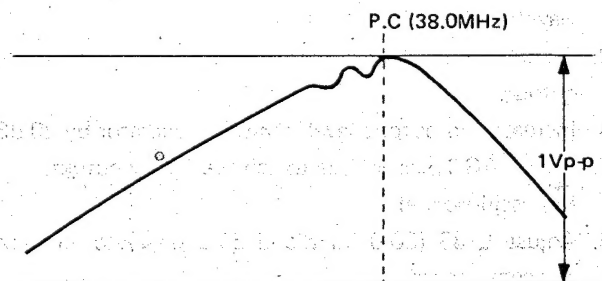

Fig. 9
2. Adjust the level of sweep generator to obtain 1Vp-p output as in Fig. 9.